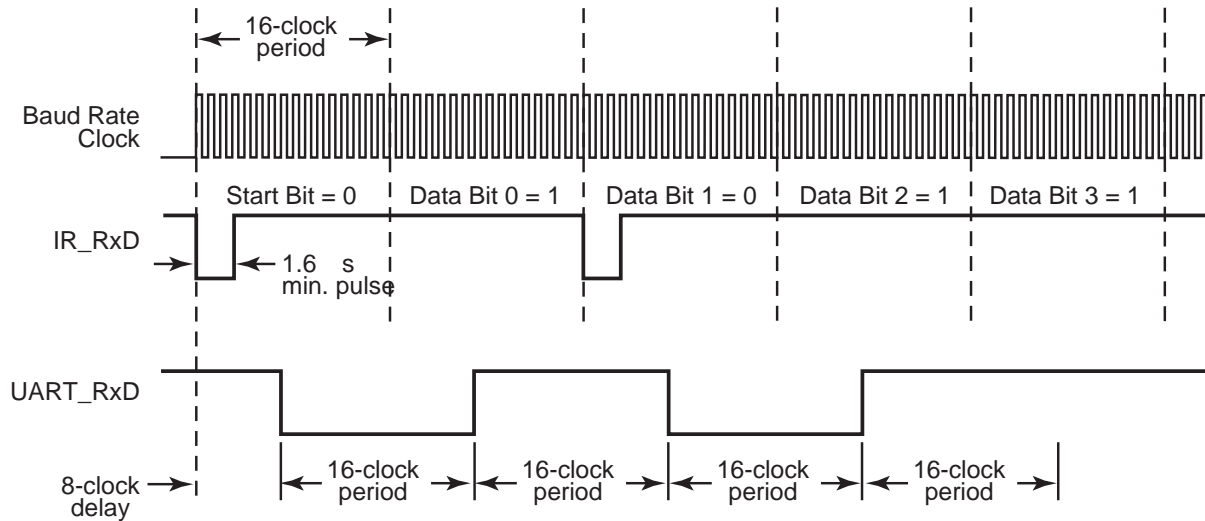

**Figure 25. Infrared Data Transmission**
The data to be transmitted via the IR transceiver is first sent to UART0. The UART transmit signal (TxD) and Baud Rate Clock are used by the infrared encoder/decoder to generate the modulation signal (IR\_TXD) that drives the infrared transceiver. Each UART bit is 16-clocks wide. If the data to be transmitted is a logical 1 (High), the IR\_TXD signal remains Low (0) for the full 16-clock period. If the data to be transmitted is a logical 0, a 3-clock High (1) pulse is output following a 7-clock Low (0) period. Following the 3-clock High pulse, a 6-clock Low pulse completes the full 16-clock data period. Data transmission is illustrated in Figure 25. During data transmission, the IR receive function should be disabled by clearing the IR\_RXEN bit in the IR\_CTL reg to 0. This prevents transmitter to receiver cross-talk.